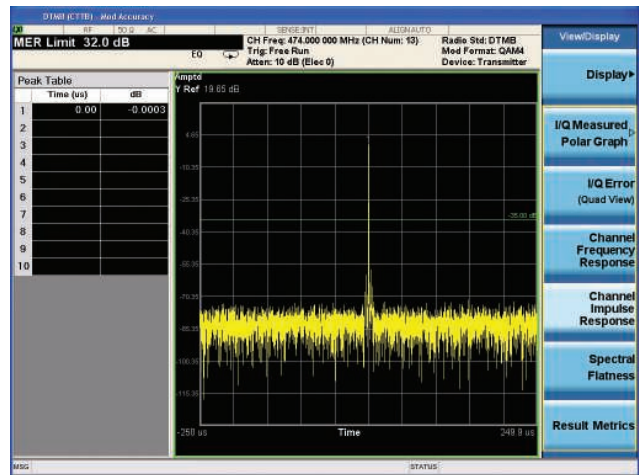

Figure 17. Modulation accuracy measurement with channel impulse response view
- **Channel impulse response** view (Figure 17): This two-window view displays the state of the channel in time domain which the signal has gone through.
View the channel impulse response (Figure 17)	[View/Display] {Channel Impulse Response}